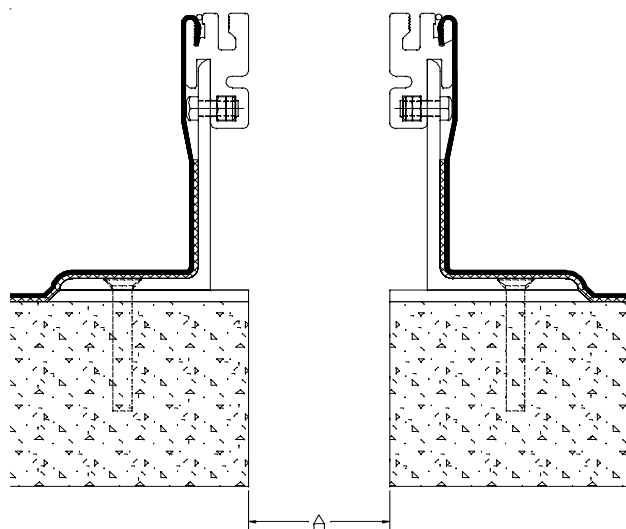

Figure 6
**STEP 7.** Select the Flashing Sheets. Push one end of each sheet into the base member channel. Allow the remaining Flashing Sheet to set on top of the deck waterproofing material. Balco, Inc. recommends applying a bead of caulk, by others, along the top edge of the Flashing Sheet and the aluminum extrusion portion of the base member to ensure a watertight installation (see Figure 6).